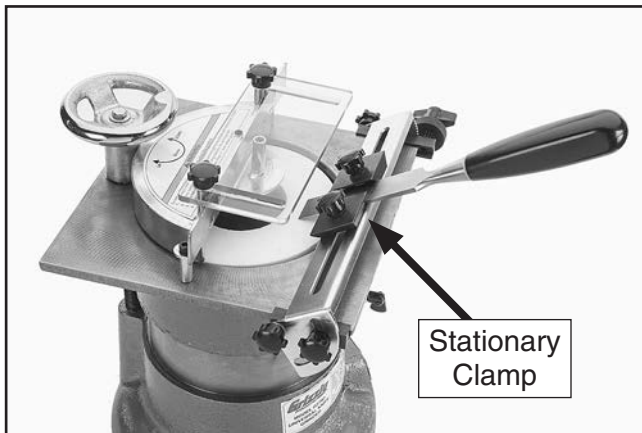

Figure 15. Stationary clamps holding a narrow tool.
The stationary clamps mounted on the pivot support hold tools with narrow cutting widths, such as chisels, that have a beveled edge which can be squarely aligned with the flat of the wheel, as shown in **Figure 15**.
3. Center the tool on the pivot support between the clamps, slide them together to firmly hold the tool, then tighten their knobs to secure them in place, as shown in **Figure 15**.
5. Adjust the angle of the pivot support and its position on the table and in the clamps so that the tool bevel just makes contact with the wheel, as shown in **Figure 15**, then make sure the stationary clamps and four pivot support lock knobs are tight.